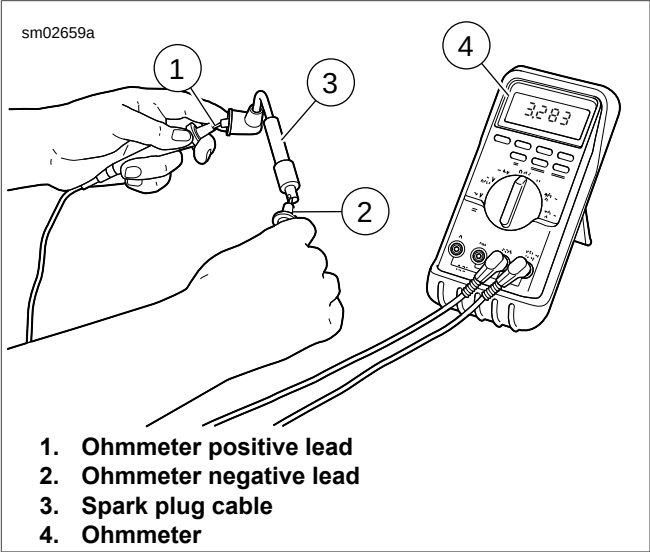

Figure 1-40. Testing Resistance
3. See Figure 1-40. Check spark plug cable resistance with an ohmmeter. Replace cables not meeting resistance specifications. Refer to Table 1-16.